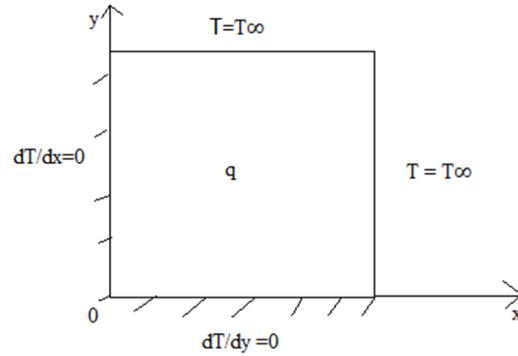

Figure 9
- (b) Find the temperature distribution in a square region with uniform heat generation as shown in Figure 9. Assume that there is no temperature variation in the z-direction. Take $k= 30\text{W}/\text{cm}^0\text{c}$, $h=10\text{ watts}/\text{cm}^2$, $l = 10\text{cm}$, $T_\infty = 50^\circ\text{C}$, $Q= 100\text{ W}/\text{cm}^3$. Consider it a two elemental problem. [7M]